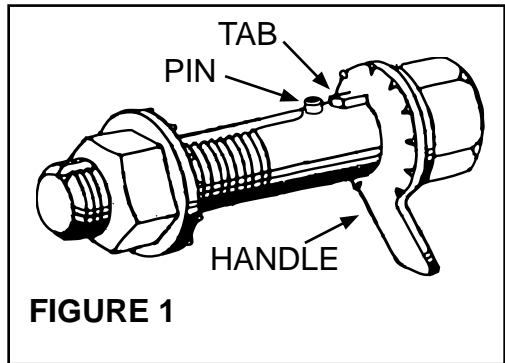

FIGURE 1
3. Remove lower strut/spindle bolt and discard. Line up small tab with pin on crank bolt (Figure 1), and install bolt with handle pointed away from wheel to increase camber (+), or pointed toward wheel to decrease camber (-).
4. Remove upper ball joint from steering knuckle, using a ball joint separator (see fig.1).